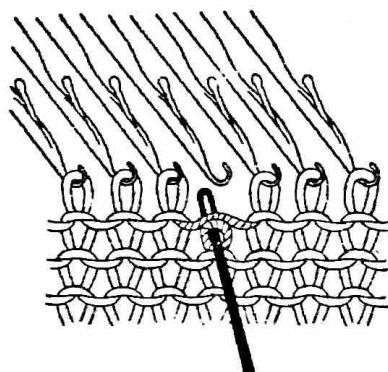

Fig. 28
1. Put the one eye transfer tool through the loop of the last knitted stitch, pick up the stitch and the unknitted thread and put them both on the needle (Fig. 28 29).